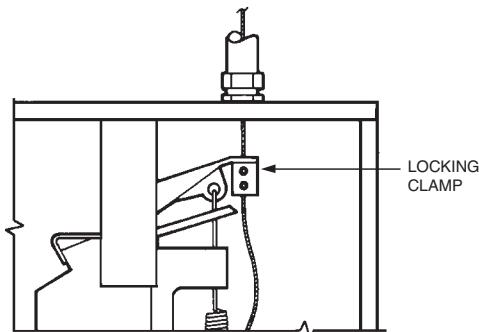

FIGURE 24
- 3. Starting at the release assembly, feed the wire rope through the hole in the release mechanism locking clamp, allowing the excess wire rope to hang down. (Do not tighten set screws in locking clamp at this time.) See Figure 24.